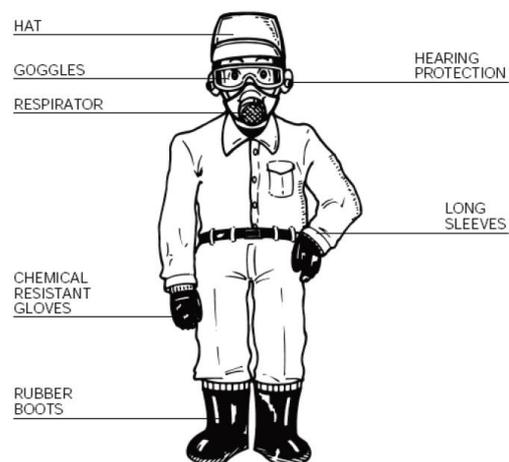

Fig 11
(1) Read this manual carefully. Be sure you understand how to operate this machine properly before you use it.
(2) Protective clothing (Fig. 11)
(3) Following personnel can not use the machine.